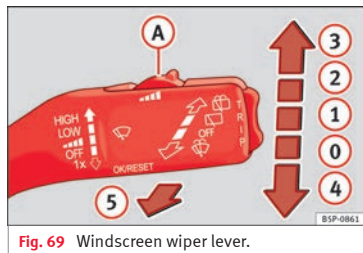

Fig. 69 Windscreen wiper lever.
The windscreen wiper lever »» Fig. 69 has the following positions:
- If the vehicle stops when wiper speed ② » Fig. 69 or ③ is selected, the next speed down will be selected automatically. The set speed will be resumed when the vehicle pulls away.